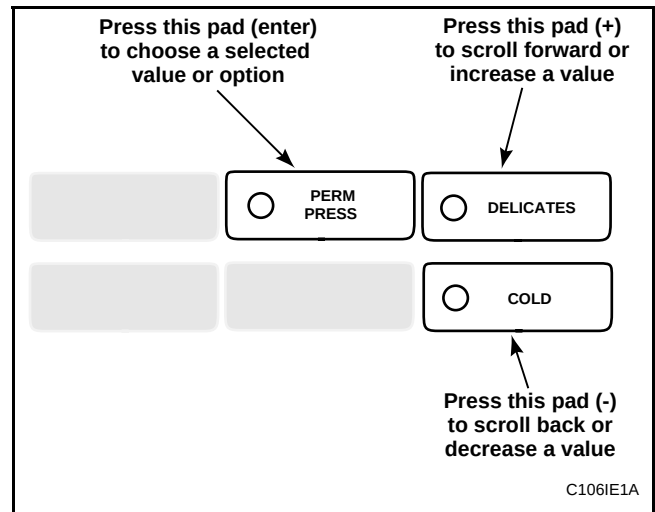

Figure 60
5. Press the DELICATES (+) or the COLD (-) keypad to increase or decrease the current number of minutes displayed in the VFD to the desired number of minutes. See **Figure 60**.